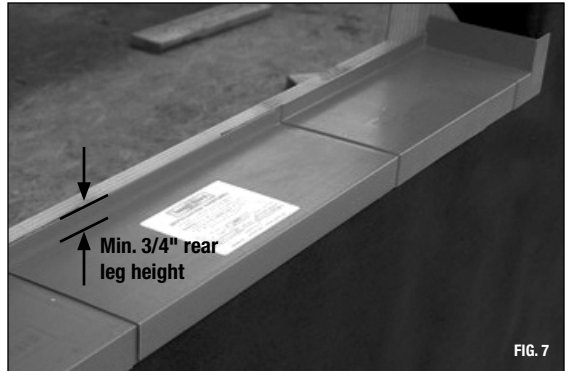

FIG. 7
- A) Make sill pan to rough opening dimensions and dry fit it in the opening. The rear leg is required to be a minimum of 3/4" high. (Fig. 7)